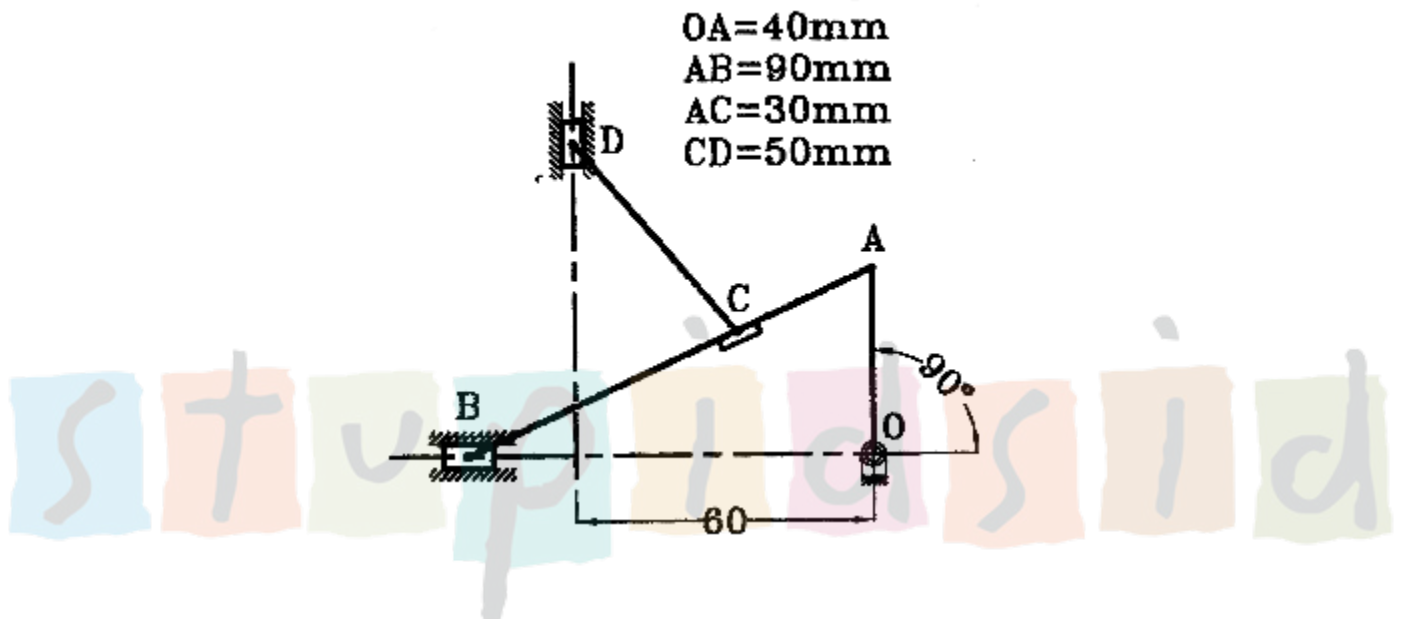

Fig. 3
3. (a) Fig. 3 shows a mechanism in which crank OA is rotating anticlockwise at 20 rad/s. At the instant shown, find out the velocity and acceleration of sliders B and D as well